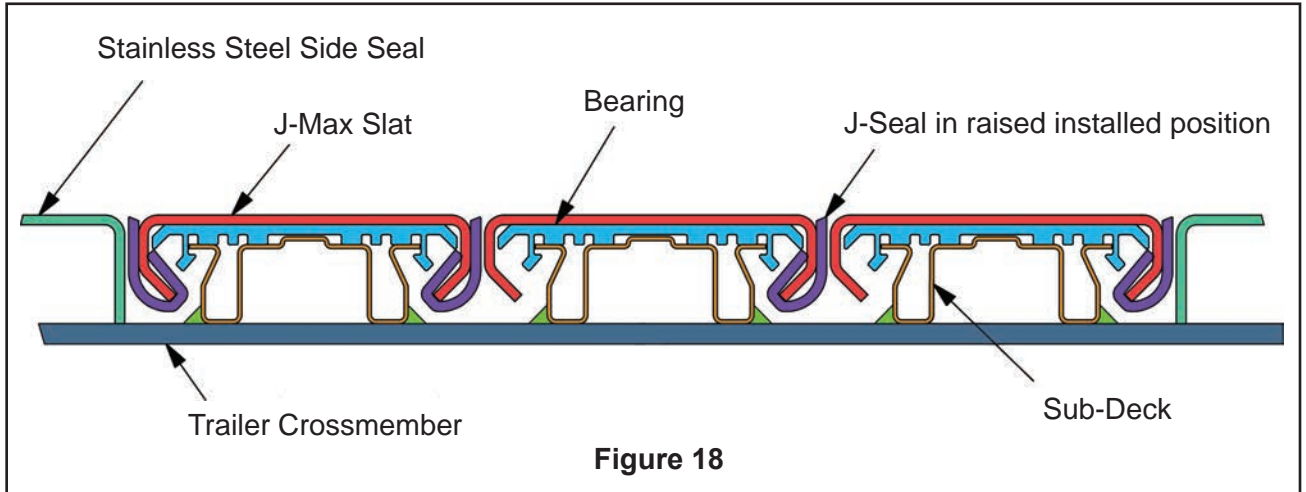

Figure 18
1. Image shows the end view of the assembled slats in position (J-Seal is in the raised installed position). (See Figure 18)